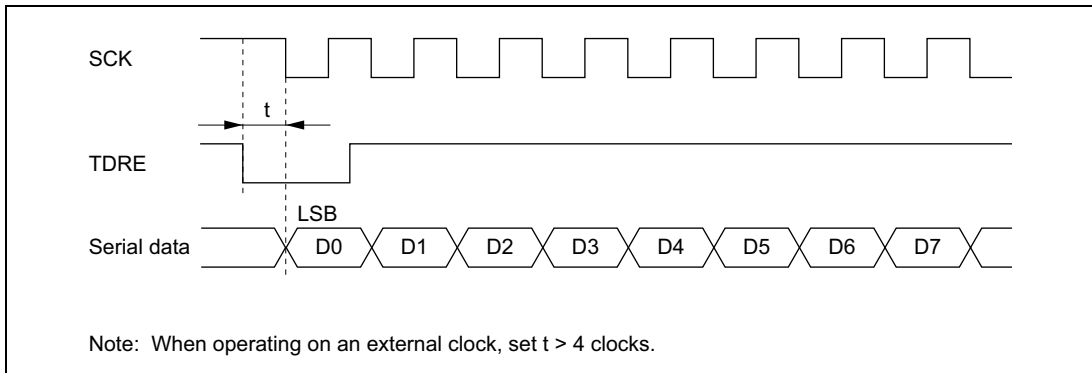

Figure 12-22 Example of Synchronous Transmission Using DTC
- When an external clock source is used as the serial clock, the transmit clock should not be input until at least 5 ϕ clock cycles after TDR is updated by the DTC. Misoperation may occur if the transmit clock is input within 4 ϕ clocks after TDR is updated. (Figure 12-22)